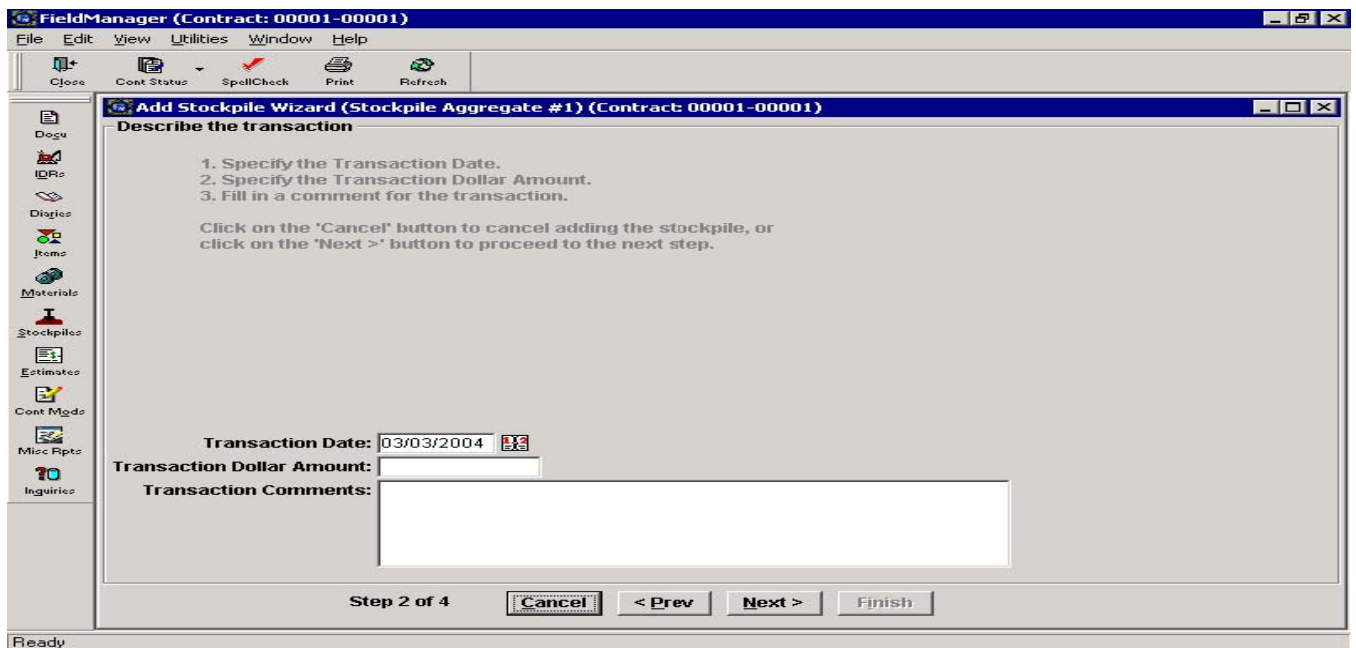

Figure 8-3
Step 2 of 4 asks you to describe the transaction (see Figure 8-3).